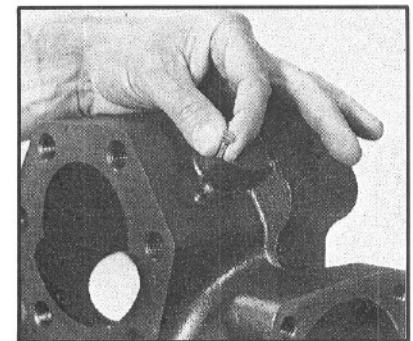
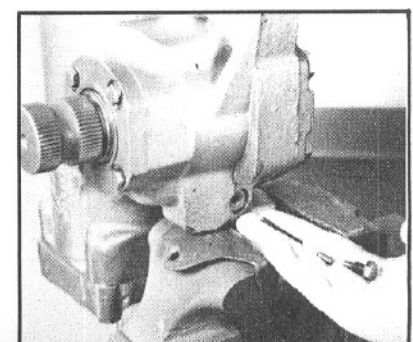

Figure 73
Figure 74
37. Your gear may be equipped with either a manual bleed screw (20A) or an automatic air bleed assembly (20B-E). If your gear has the manual bleed screw, remove it from the gear housing (20) (FIG. 73). If your gear has the automatic air bleed assembly, it is usually not required that you service it. If it is necessary, however, remove the automatic bleed screw (20B) and automatic bleed passageway seal (20E) from the housing. Then, tilt the housing upside down so that the special pin (20C) and spring (20D) will fall out (FIG. 74).